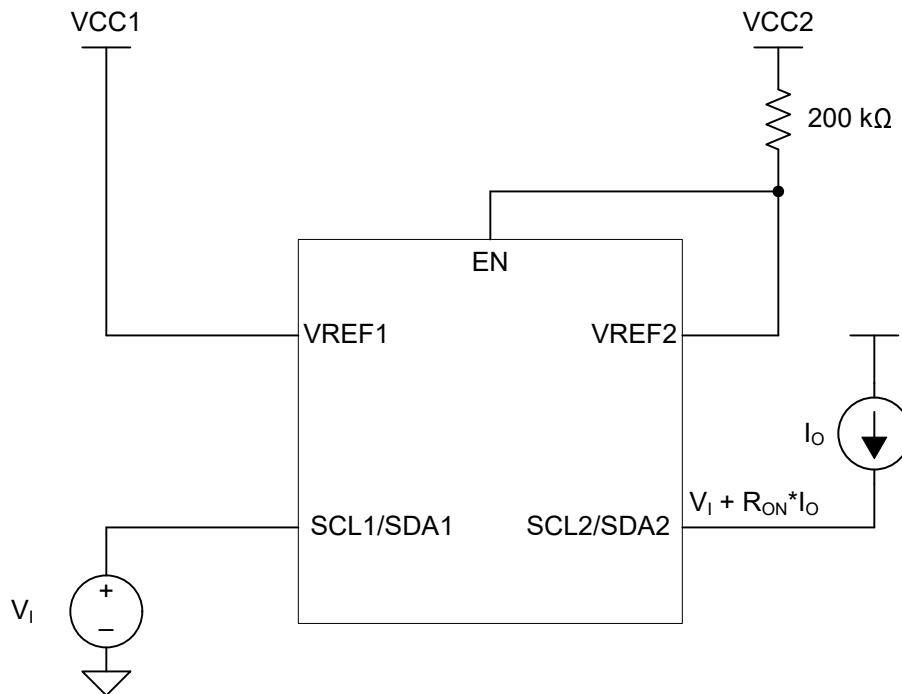

图 7-2. Application Setup for R_{ON} Delay
(5) Measured in application connected current source configuration only. See 图 7-2